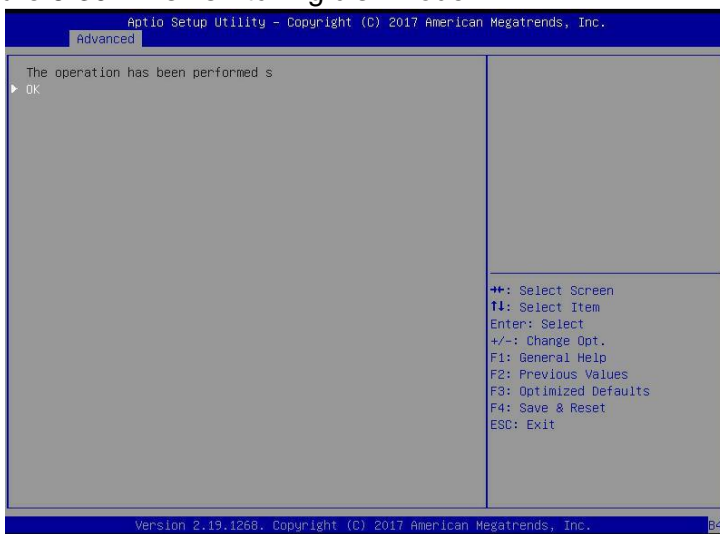

Figure 6-30
e) Enter the interface shown in Figure 6-30 to complete the operation of switching the disk mode.
✧ Figure 6-30 Finish switching disk mode